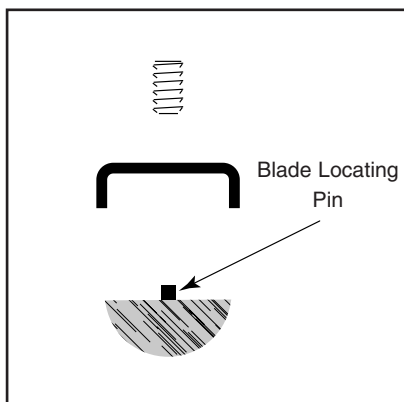
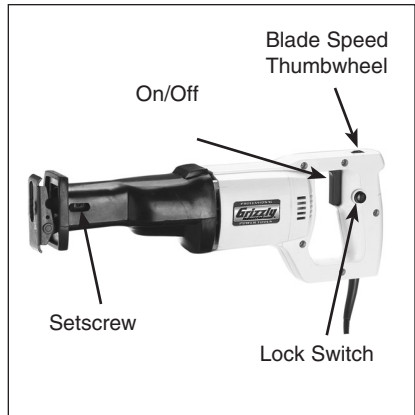

Fig 2. Blade Clamp Assembly.
Fig 3. Location of controls.
2. Use the 3mm Allen® Wrench supplied to loosen the setscrew located in the slot on the left hand side of the saw (see **Figure 3** for location of controls). While it is not required to remove the screw, it does need to be turned three or four times to allow blades to be exchanged. Please note the locating pin under the jaw clamp. (**Figure 2**).
The trigger switch can be locked by pressing the button on the side of the handle. Squeeze the trigger switch until it has reached the required position and depress the lock on the knob. This will make the tool run continuously. Press the trigger switch to disengage the lock (see **Figure 3**).
Blade speed is controlled by the thumb wheel on top of the saw, above the trigger (see **Figure 3**). The higher the number on the thumbwheel, the faster the saw reciprocates.